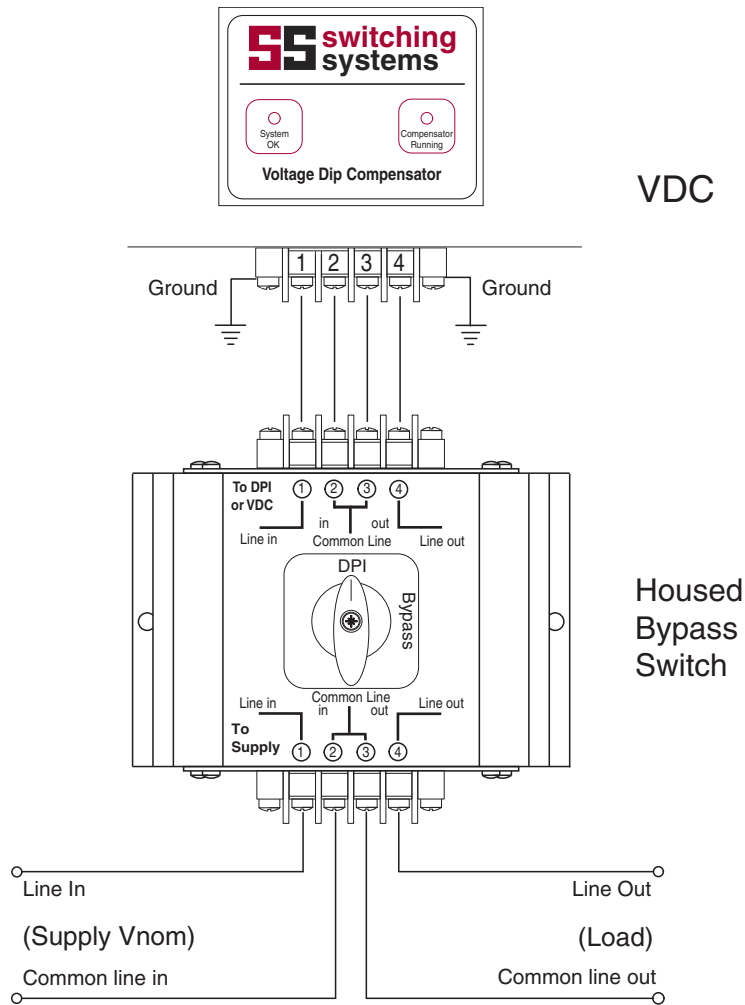

Fig 8
10. In applications which require no break maintenance, a bypass switch must be installed. Order the appropriate Bypass Switch (see p17) which should be connected as shown in Fig 8.